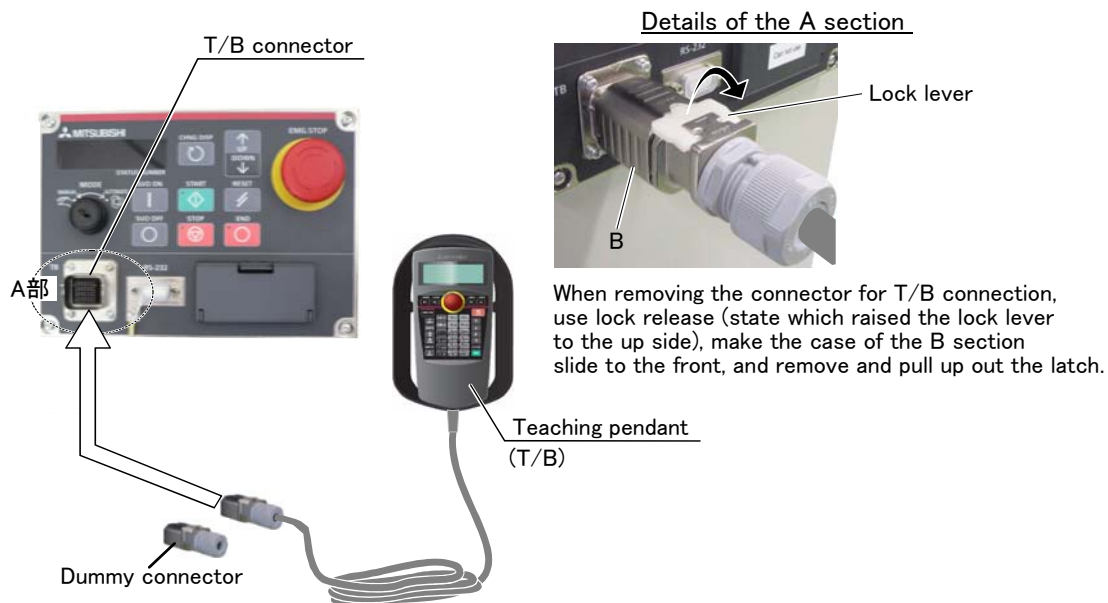

Fig.2-13 : Installing and removing the T/B
- 2) Connects T/B connector to the robot controller. Use as the upper surface the lock lever shown in Fig. 2-13, and push in until there is sound.